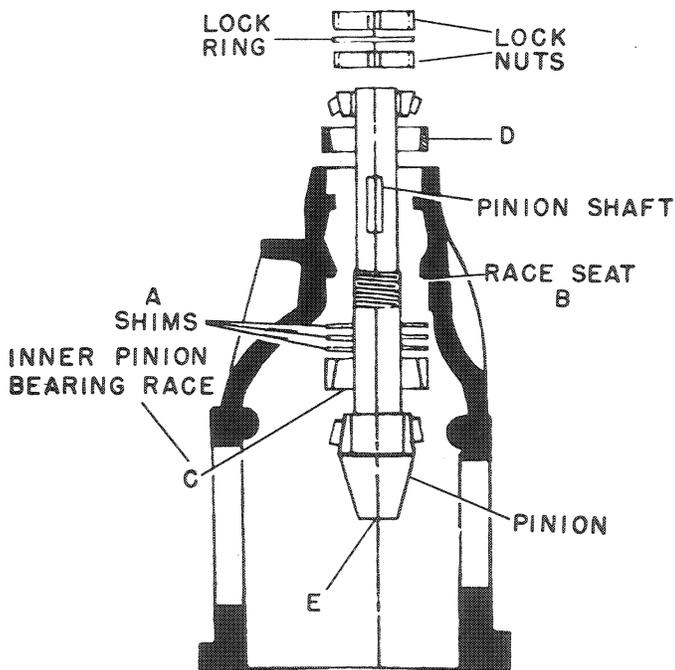
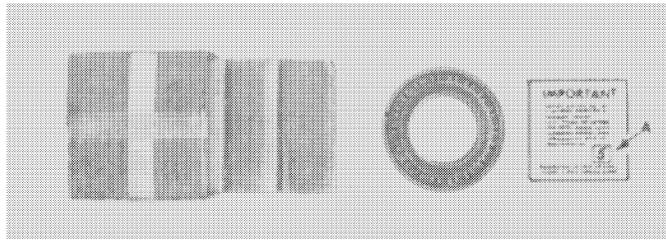
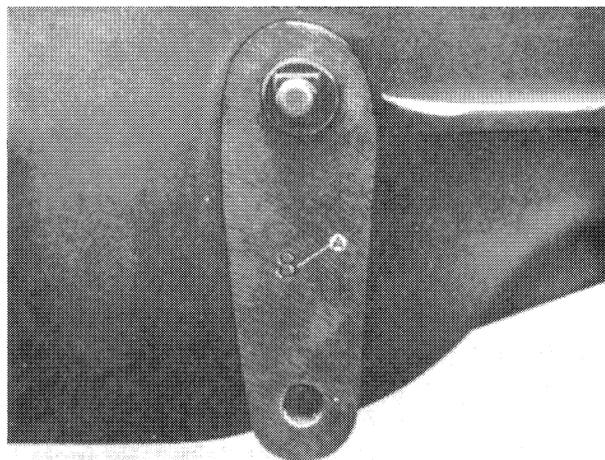

FIGURE 1-8
FIGURE 1-9
FIGURE 1-10
NOTE: When replacing only the ring gear and pinion or the ring gear hub, but not the inner pinion bearing (9), it is not necessary to remove the inner pinion bearing race as shown at C, Figure 1-8. In this case the shims at A, Figure 1-8, do not have to be removed or altered. However, when replacing the inner pinion bearing it is necessary to remove the inner pinion bearing race as indicated at C, Figure 1-8. Then calculate the thickness of shims needed at A, Figure 1-8, and proceed with the installation as follows.
When bearing (9) is being replaced, determine the correct number of shims and install them at A, Figure 1-8. This is necessary so the pinion is properly located with respect to the center of the ring gear. Proper location insures long life of the ring gear and pinion set. A number, usually between 5 and 15, is stamped on the machined surface of the top of the gearbox as indicated at A, Figure 1-10.
The bearing is packed with an important note indicating the shim factor of that particular bearing. This shim factor is indicated by a number written on the enclosed slip, see A, Figure 1-9. This number will usually be within a range of 0-8. To determine the correct thickness of shims to be installed at A, Figure 1-8, add these two figures--the one on the gearbox at A, Figure 1-10, and the one marked on the bearing tag at A, Figure 1-9.
For example, the number or shim factor written on the enclosed slip with the bearing at A, Figure 1-9, is 5. The number stamped on the gearbox shown at A, Figure 1-10, is 8. Add 5 and 8 and the total is 13. Therefore, 0.013" thickness of shims then should be installed at A, Figure 1-8, under the inner pinion bearing race, C, Figure 1-8.
1. After calculating the correct thickness of shims, install them at A, Figure 1-8, and install the inner pinion bearing race, C, Figure 1-8, using a brass punch. Be sure the bearing race is properly seated.
3. Install the outer pinion bearing race, D, Figure 1-8. Be sure it is properly seated all the way around. Install it using a brass punch. Be careful not to damage the race.
5. Turn the gearbox into the position shown in Figure 1-8, and support pinion, E, with a hard wooden block. Be sure the wooden block is high enough to support the weight of the pinion, pinion shaft, and gearbox so the bottom of the gearbox is not resting against the floor or workbench.
7. Install the inner locknut (4). Tighten this locknut until the pinion bearings are moderately preloaded. If a torque wrench is available, install the original cap screw in the end of the pinion shaft and tighten the locknut until a preload of 15 in. lbs.-25 in. lbs. (1.69 N·m-2.82 N·m) is obtained.